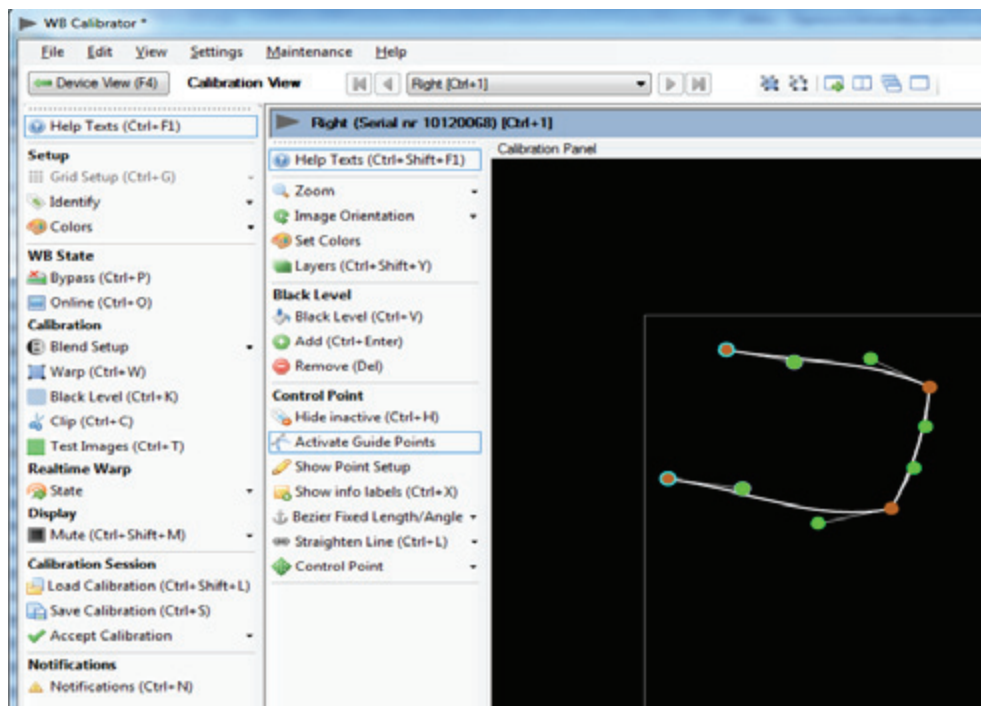

Figure 8-3. Multiple Black Level Management lines added.
To create the next side in the zone, click on one of the control points in the first line created (not the Bezier points) and then click “+” (Add) again (Figure 8-3). This will add other line to the calibration panel. Continue to add lines as needed. All these lines have the same controls as Bezier lines in the Mesh Bezier Warp and the Advanced Edge Blending.
**Important!** To add the last line connecting the first and last control point, it is important select both of the control points required to encapsulate the calibration area (Figure 8-3). To select multiple points, either press and hold Ctrl while using the mouse point to select points or drag and drop a selection rectangle over the points. Finally click “+” (Add) again to add the last line.